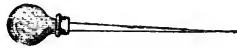

Fig. 36.—Marking awl.
*Marking awl* (Fig. 36) is merely a sharp-pointed piece of steel for marking with instead of a lead pencil. A